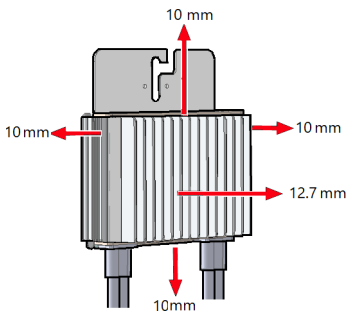

Figure 8 Clearance around the Power Optimizer for heat dissipation
- To allow for heat dissipation, maintain the following clearance (see Figure 8):